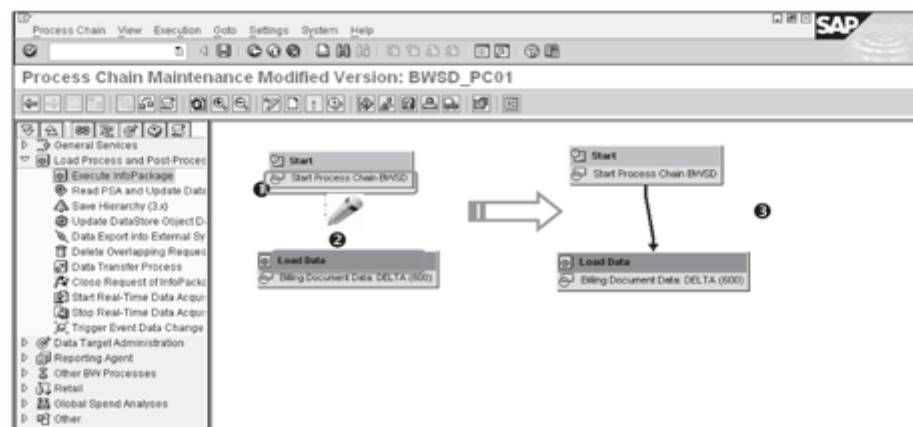

Figure 14.34 Establish a Linkage Between Elements of the Process Chain
To link the two processes for establishing the sequence, click on Start Process Chain (❶ of Figure 14.34), and drag the cursor down. A pencil with a dotted line appears on the screen (❷); drag the cursor to the Load Data box, and the system establishes a sequence (❸).